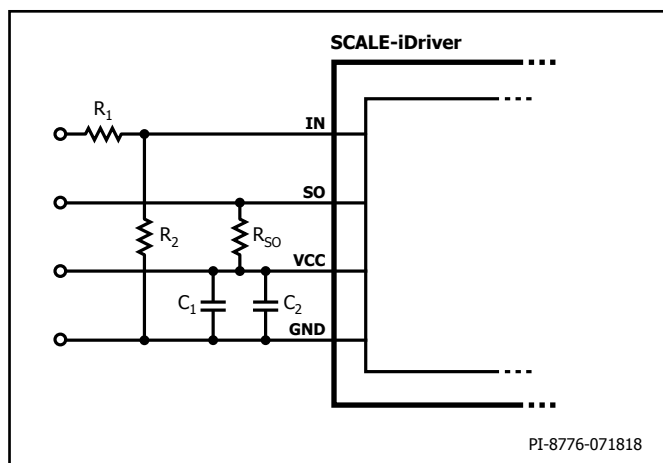
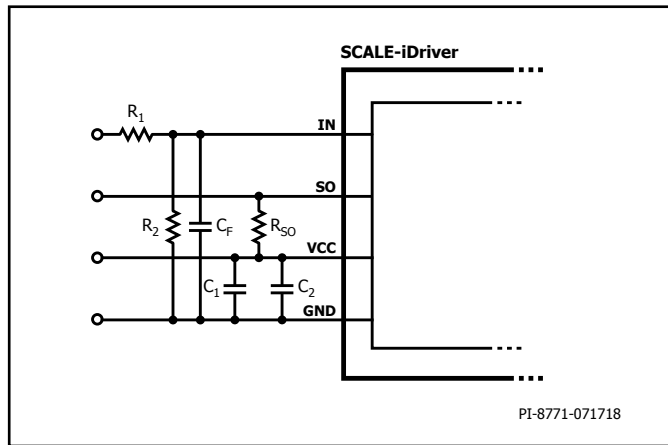

Figure 6. Recommended Circuitry for Increased IN Logic Levels.
Figure 7. Primary-Side of Example Circuitry.
If the physical distance between the controller and the SCALE-iDriver is large or if a different logic level is required, the resistive divider in Figure 6 is recommended. This solution adjusts the logic level as necessary and will also improve driver's noise immunity.
For the input the circuitry of Figure 6 is recommended, when using 15 V input logic. R_1 and R_2 represent a voltage divider to get a 5 V signal at the IN pin. If additional filtering is required a capacitor C_F can be placed in parallel to R_2 as depicted in Figure 7. The time constant τ can be calculated by Equation (1). In case direct 5 V logic is used at the IN pin, R_2 can be omitted and R_1 can be reduced to 100 Ω .